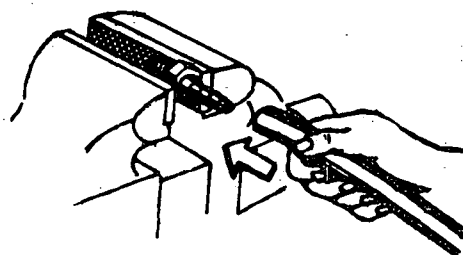

Fig. 4
- b) Push the hose on the nipple until it reaches its limit (Fig. 4).